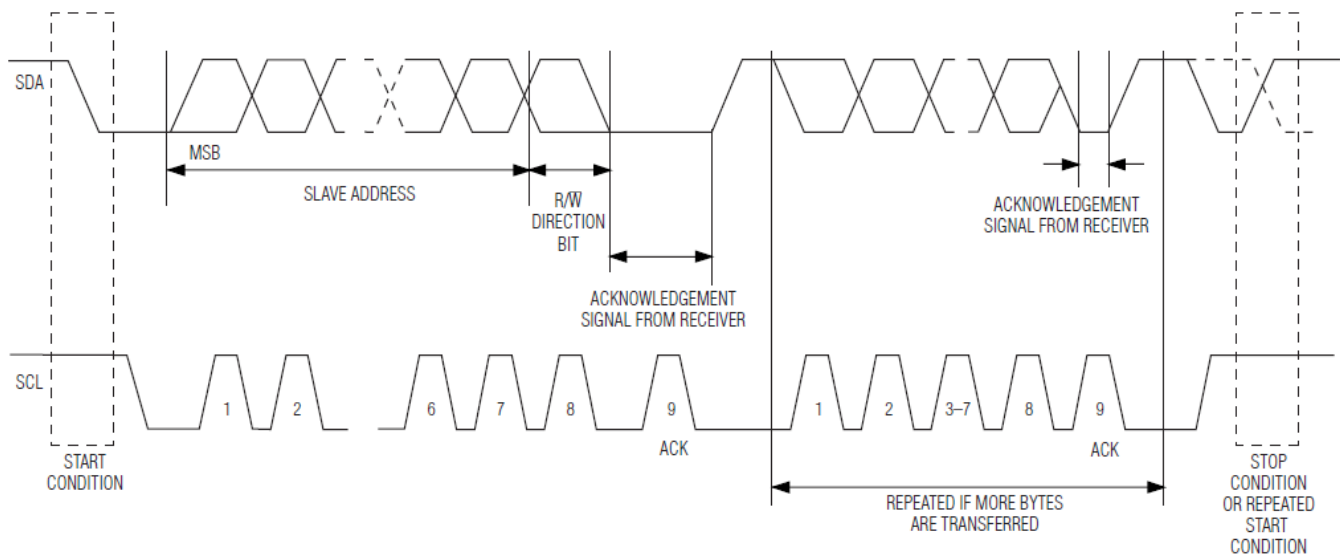

Figure 6. 2-Wire Data Transfer Protocol
The 2-wire serial-port interface supports a bi-directional data transmission protocol with device addressing. Connections to the bus are made through SDA and SCL. Timing diagrams for the 2-wire serial port can be found in Figure 6. Within the bus specifications, a standard mode (100 kHz clock rate) and a fast mode (400kHz clock rate) are defined.
- **Data valid:** The state of the data line represents valid data when, after a START condition, the data line is stable for the duration of the high period of the clock signal. The data on the line can be changed during the low period of the clock signal. There is one clock pulse per bit of data. Figure 6 detail how data transfer is accomplished on the 2-wire bus.
- **START Condition:** A high-to-low transition of SDA with SCL high is a START condition that must precede any other command. See the timing diagrams in Figure 6 for further details.